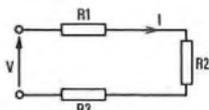

Fig. 1
**Q. 4.** (a) In Fig. 1, derive an expression for the voltage,  $V_1$ , across resistor  $R_1$  in terms of the other symbols on the diagram.
**A. 4.** (a) From Ohm's law, the current,  $I$  amperes, flowing in the circuit shown in Fig. 1 is given by  $I = V/(R_1 + R_2 + R_3)$ , and the voltage across resistor  $R_1$  is given by  $V_1 = IR_1$ .